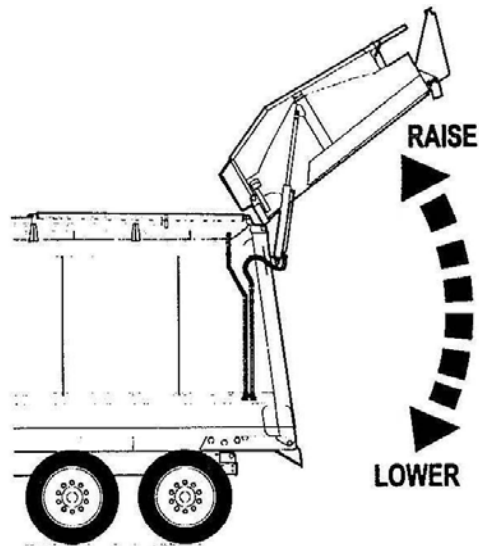

Figure 52. Raising the Tailgate
1. MOVE the tailgate raise air toggle switch to RAISE and HOLD the toggle switch until the tailgate is COMPLETELY raised, which is 30 ° above the body. See Figure 52.